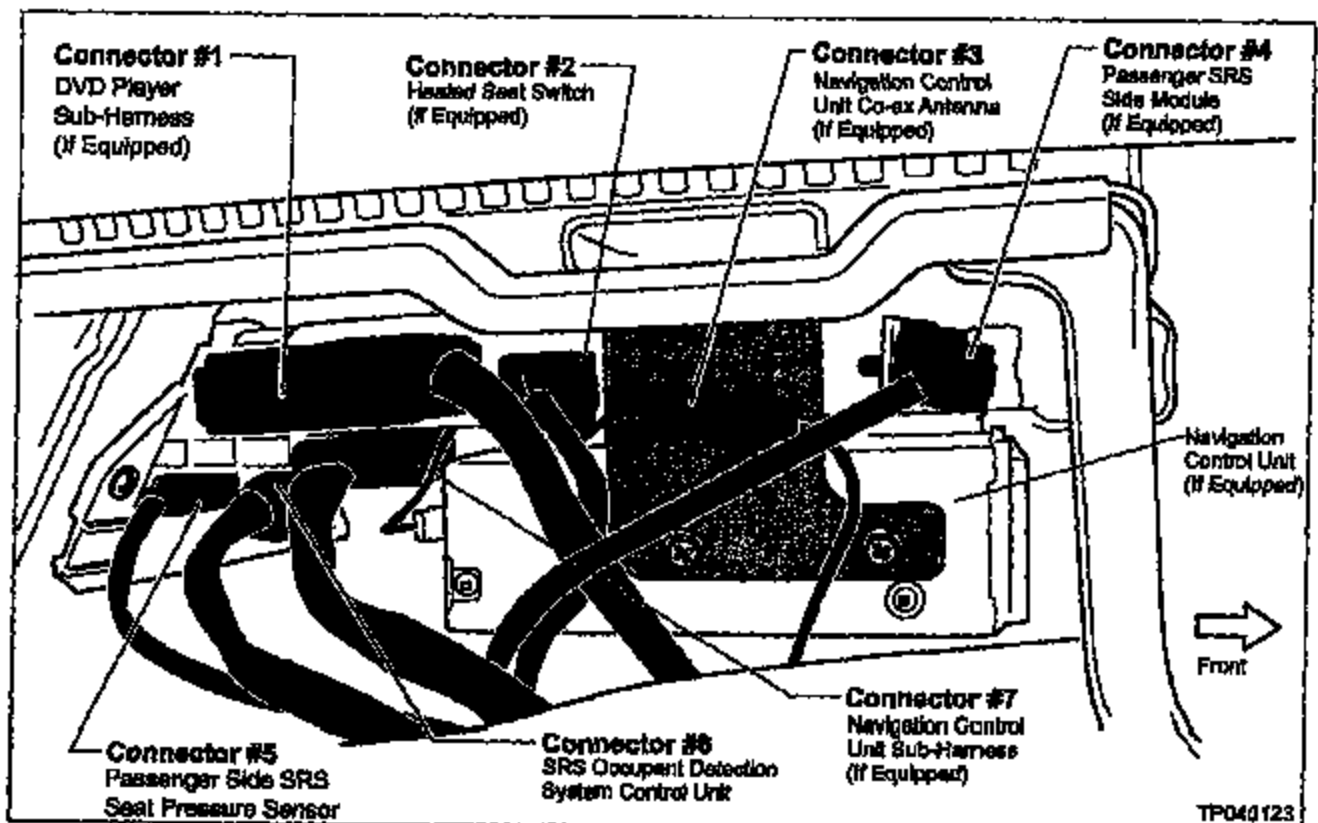

Figure 9
14. Carefully disconnect the following harness connectors from the Passenger Front Seat (see Figure 9).